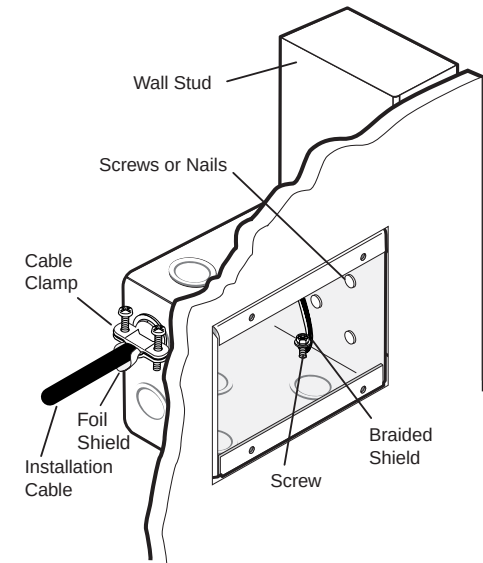

Figure A-2 — Grounding outer braided and foil shields
6. Exposed cable shields (braids or foil) are potential sources of short circuits. Trim back and/or insulate shields with heat shrink (figure A-2).